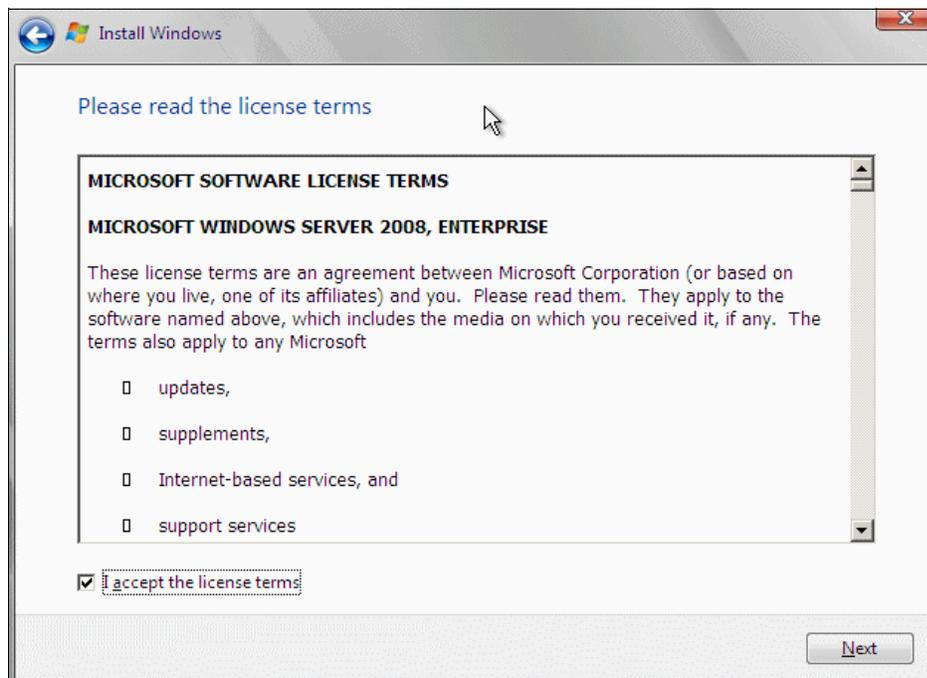

Figure 18-42 Accepting the license terms
5. Select **I accept the license terms** and click **Next**, as shown in Figure 18-42.